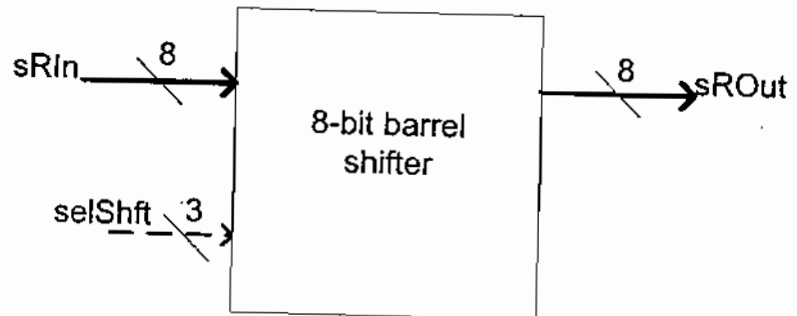

Figure 1b An 8-bit barrel shifter symbol
- Figure 1b illustrates the symbol for an 8-bit barrel shifter